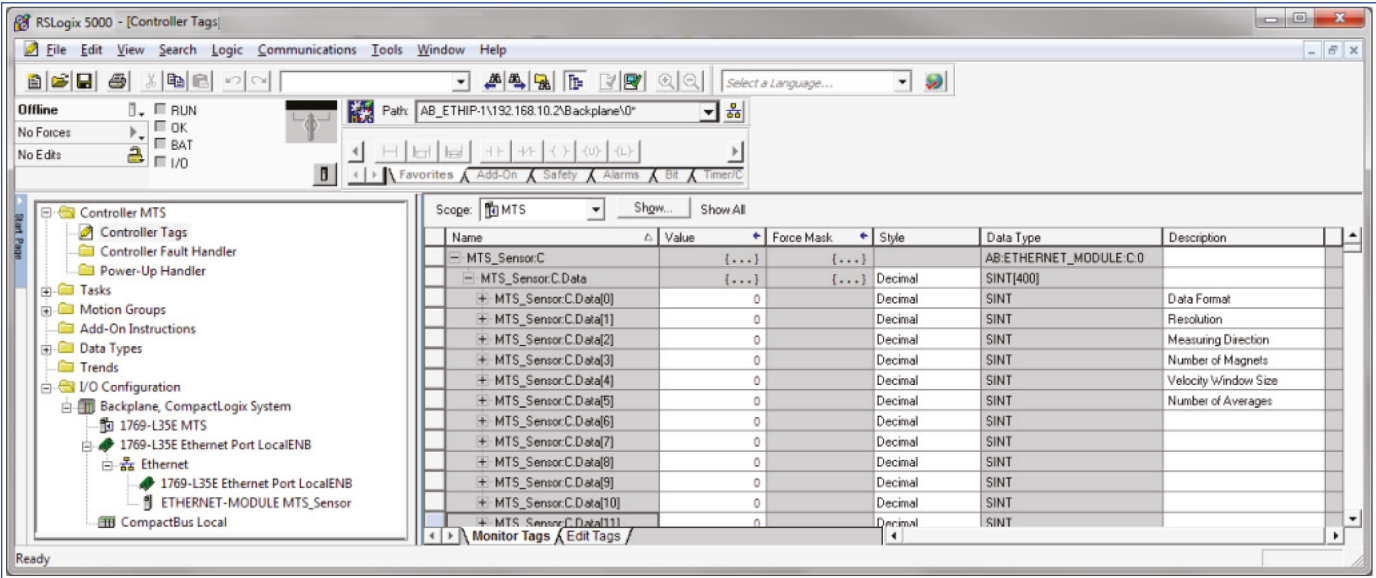

Fig. 103: Devicecontroltags
7.6.1 In the “I/O Configuration tree”, click to open the “Controller Tags” directory. The controller tag table displays in the left pane (Fig. 103). The description column fields will be blank by default.